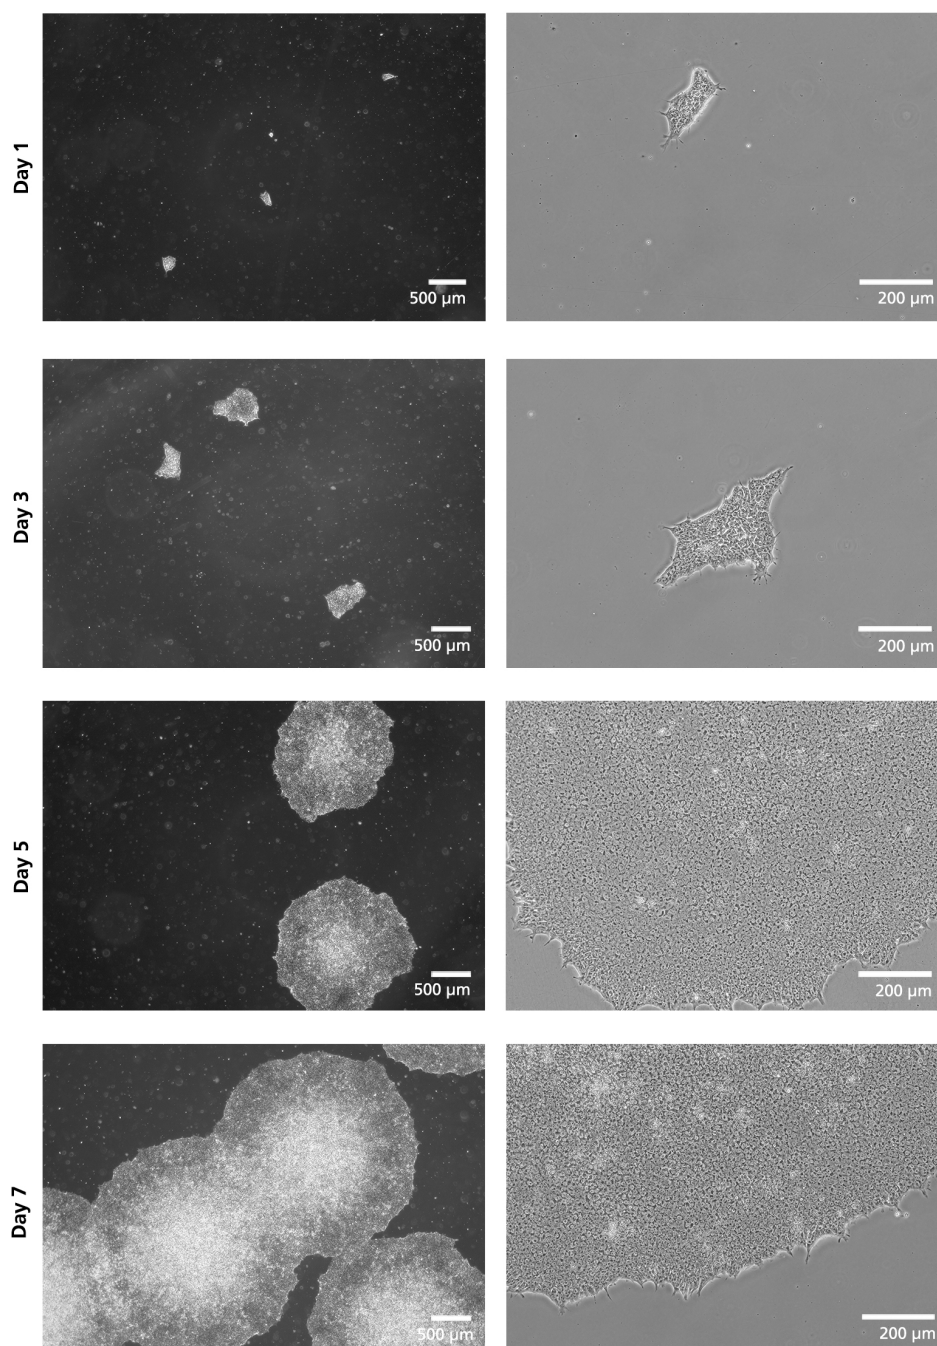

Figure 1. Recovery of SCTi003-A-5 hiPSCs on Days 1 - 7 After Thaw
13. Perform medium changes as desired using mTeSR™ Plus and visually assess cultures daily to monitor growth and morphology. See Figure 1 for expected growth characteristics during the first seven days after thawing. Medium can be changed daily, every other day, or up to two consecutive days of feeding can be skipped when using mTeSR™ Plus. To skip two consecutive days of feeding, add twice the volume of medium.